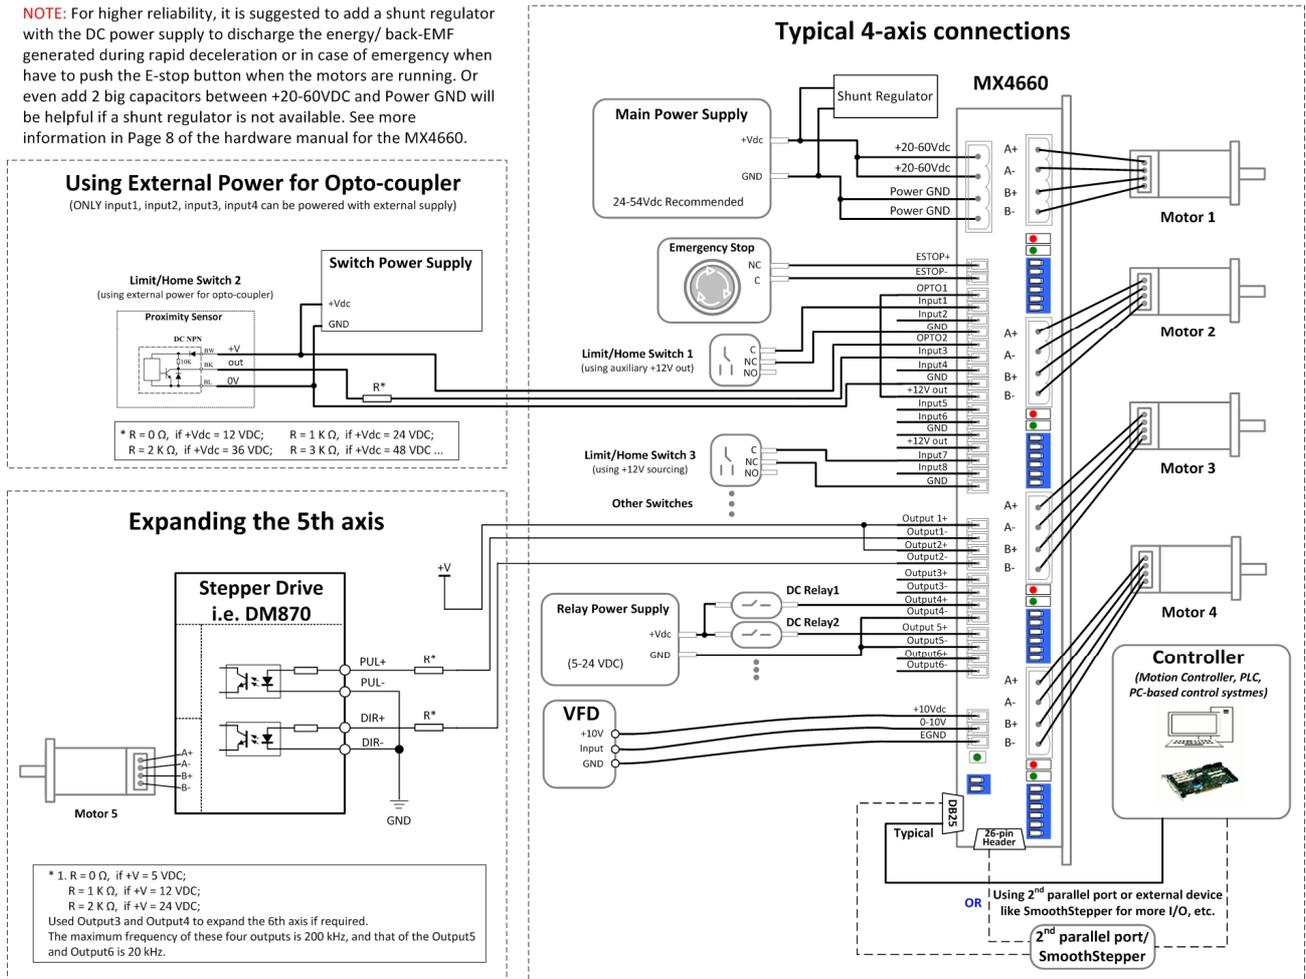

Figure 21 MX4660 Connection Diagram
**Output 1 and Output2** are connected to **Pin 17, 1** of the **DB25** connector respectively, and **Output 3, Output 4, Output 5 and Output 6** are connected to **Pin 17, 1, 8, and 9** of the **26-pin low profile connector** respectively. Connect one end of the load to “Output X+” (X can be 1, 2, 3, 4, 5, 6, 7 or 8) pin and the other end to the VDC+ of a 5-24VDC power source. Then, connect the related “Output X-” pin of MX4660 to the power supply VDC-. Those digital outputs are rated at max 70mA. Refer to figure 21 of “MX4660 Connection Diagram” on page20 for using high speed digital output to expand the 5th axis.
When implemented properly, the MX4660 can be used to power four 2 phase (1.8°) stepper motors of NEMA 17, 23, 24, and 34. In addition, it can also allow controls of optional external devices via the built-in digital inputs, digital outputs, and the opto-isolated analog output. Figure 21 illustrates the MX4660 connection diagram with 4 stepper motors. External devices through the MX4660 I/O connections are optional at a user's choice. **If you need to use input5, input6, input7, input8, output3, output4, output5 and output6, a 2nd parallel port or an external device like SmoothStepper is required.**